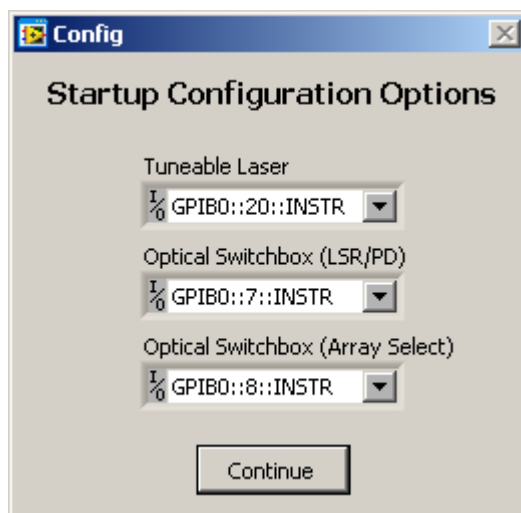

Figure 3.12.1: Start-up Configuration Options
2. Check if the I/O configurations are as shown in Figure 3.12.1 and select continue.